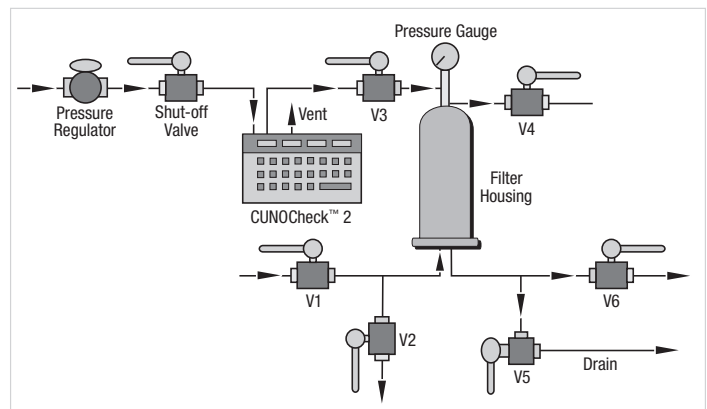

Figure 4. BPT (automated method).
The CUNOCheck™ 2 Automated Integrity Tester can be used to perform a BPT. When using the CUNOCheck 2 Automated Integrity Tester, follow the installation instructions for connecting the unit to the upstream valve as shown in Figure 4. Consult the appropriate 3M Purification Inc. literature for the filter cartridge bubble point value for the filter to be used and program this value into the CUNOCheck 2 Automated Integrity Tester when requested during the test set-up.
3. Procedure (Automated Testing — Figure 4)
- A. Configure the system as shown in Figure 4.